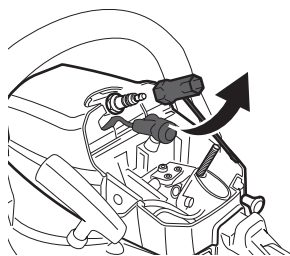

Fig. 59
- > Use the combination spanner (32) to loosen and remove the spark plug (Fig. 59).